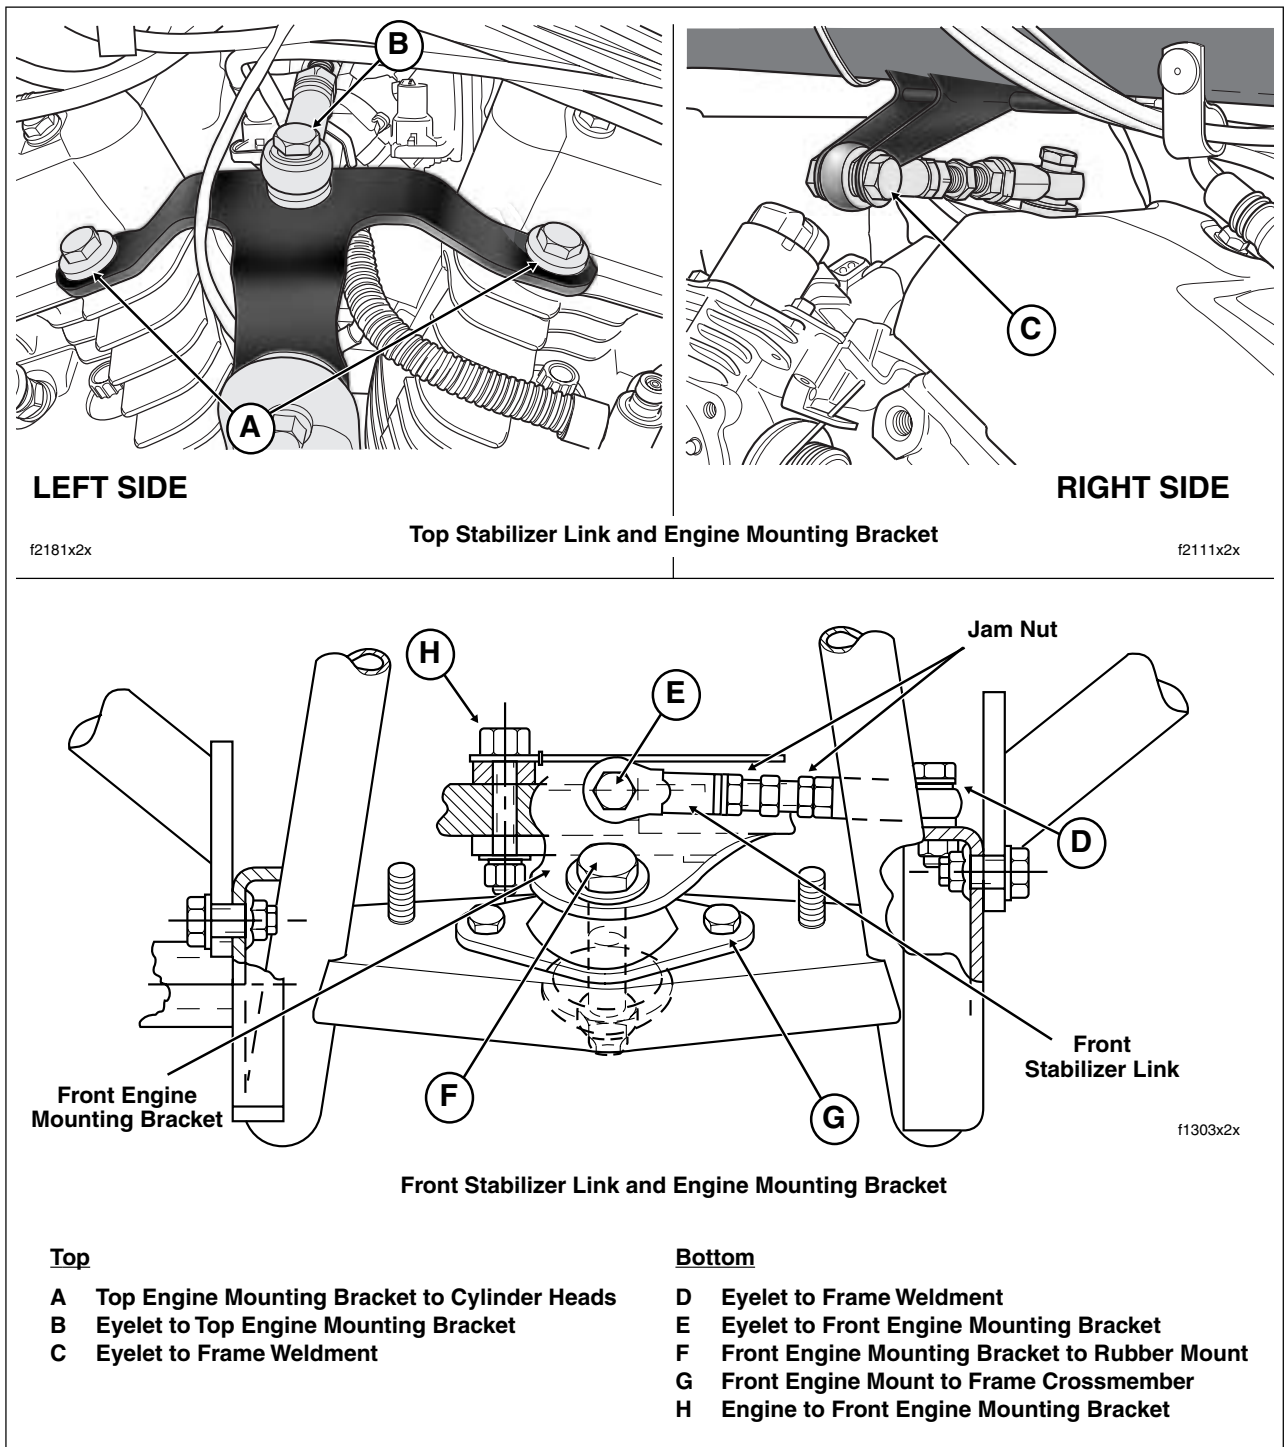

Figure 1-24. Engine Mounting Bracket Bolts
- On left side of vehicle, tighten top engine mounting bracket bolts to front and rear cylinder heads to 35-40 ft-lbs (48-54 Nm). See A of Figure 1-24.
- Top stabilizer link - tighten eyelet bolt to top engine mounting bracket to 18-22 ft-lbs (24-30 Nm). See B of Figure 1-24.
- Moving to right side of vehicle, tighten eyelet bolt to frame weldment to 18-22 ft-lbs (24-30 Nm). See C of Figure 1-24.
- Front stabilizer link - on left side of vehicle, tighten eyelet bolt to frame weldment to 18-22 ft-lbs (24-30 Nm). See D of Figure 1-24.
- Moving to right side of vehicle, tighten eyelet bolt to block on front engine mounting bracket to 18-22 ft-lbs (24-30 Nm). See E of Figure 1-24.
- Tighten center front engine mounting bracket to rubber mount bolt to 15-20 ft-lbs (20-27 Nm). See F of Figure 1-24.
- Tighten the two front engine mount to frame crossmember bolts to 15-20 ft-lbs (20-27 Nm). See G of Figure 1-24.
- Tighten two engine to front engine mounting bracket bolts to 33-38 ft-lbs (45-52 Nm). See H of Figure 1-24.